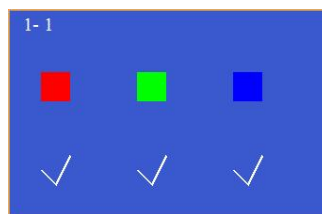

Fig.4-40 Shooting and analysis complete
- Once the analysis of the components is completed, a white check mark will appear below the corresponding color. When a partition has been captured and analyzed, its background color will change to dark blue (see Figure 4-40).